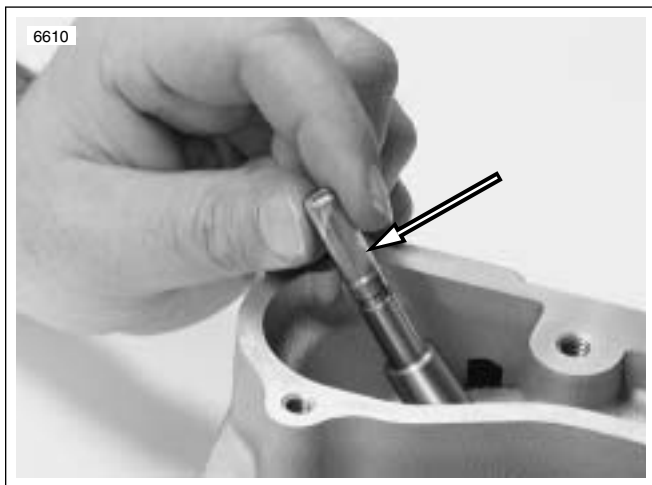

Figure 3-76. Valve Guide Seal Protector Sleeve
6. See Figure 3-76. Place a protective sleeve over the valve stem keeper groove.